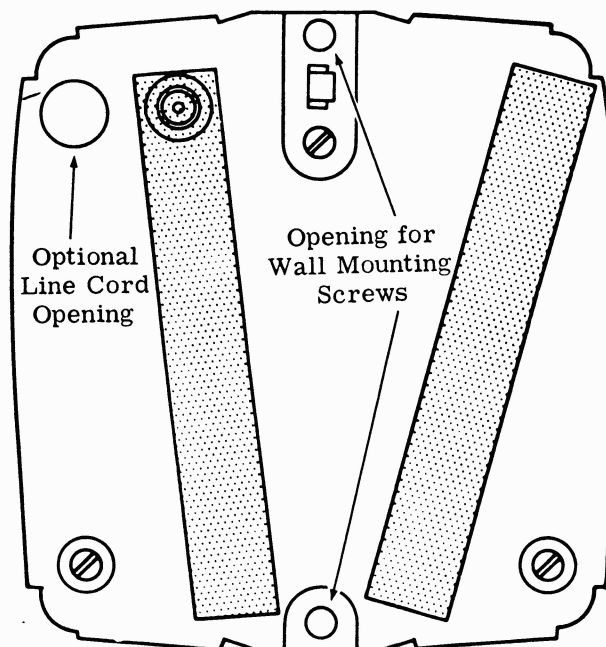

Figure 4. Bottom View of the Type 86A Key Telephone Adapter
4.02 The adapter may be placed on a table or desk, or permanently mounted on any vertical surface near the telephone. For wall mounting, the base of the adapter has openings (Fig. 4) for two wall-mounting screws, and an opening through which station wiring may pass to either a recessed electrical connection box in the wall or 44A connecting block. In general, the